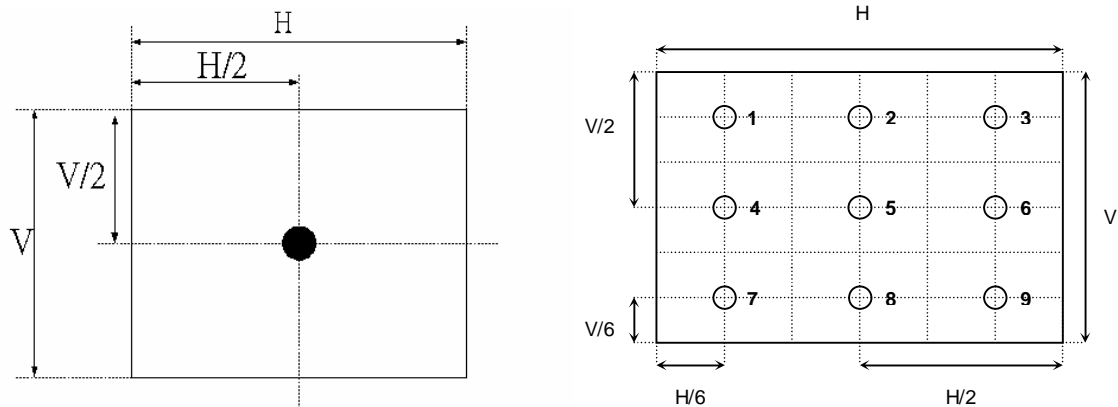

Fig.4-2 Optical measurement point
2. Surface luminance is luminance value at point 1 across the LCD surface 50cm from the surface with all pixels displaying white. From more information see FIG 4-2. When $I_{BL} = 6.5\text{mA}$, $L_{WH} = 450\text{cd/m}^2$ (typ.) $L_{WH} = L_{on1}$, Where L_{on1} is the luminance with all pixels displaying white at center 1 location.